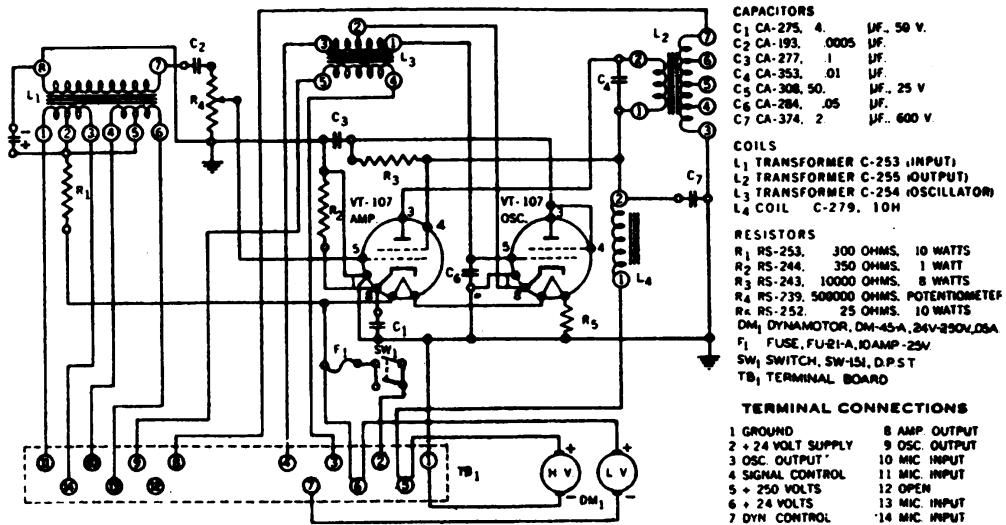

Figure 8. - Circuit Diagram for Interphone Amplifier BC-667
b. Interphone Amplifier BC-667 - (See Fig. 8 For Circuit Diagram) - The electrical features of Interphone Amplifier BC-667 are identical to those of the BC-367 except for the following. As Interphone Amplifier BC-667 is to be used on a 24-volt system, it is necessary to construct the unit to operate on this higher voltage. This is accomplished by changing Dynamotor DM-25A to DM-45A, adding a series dropping resistor R5 to the filament circuit and increasing the resistance of the microphone current dropping resistor R1.